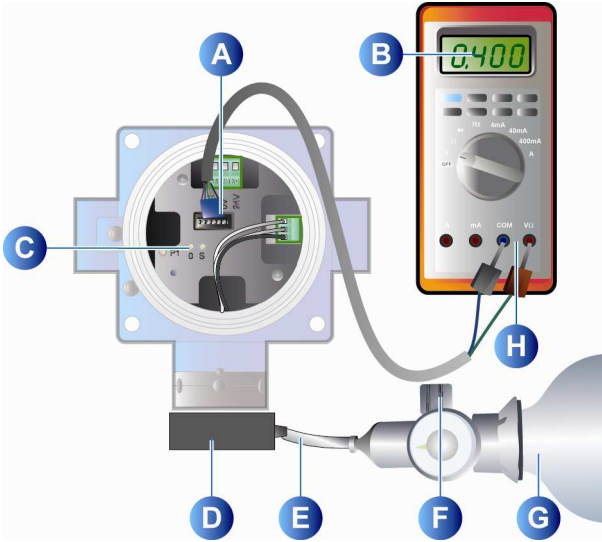

Figure 18 : Zeroing (OLCT100).
2. Insert the blue and green plugs on the measurement lead into the + and - multimeter sockets, respectively (0-2 V range or similar) (Figure 18, "H")